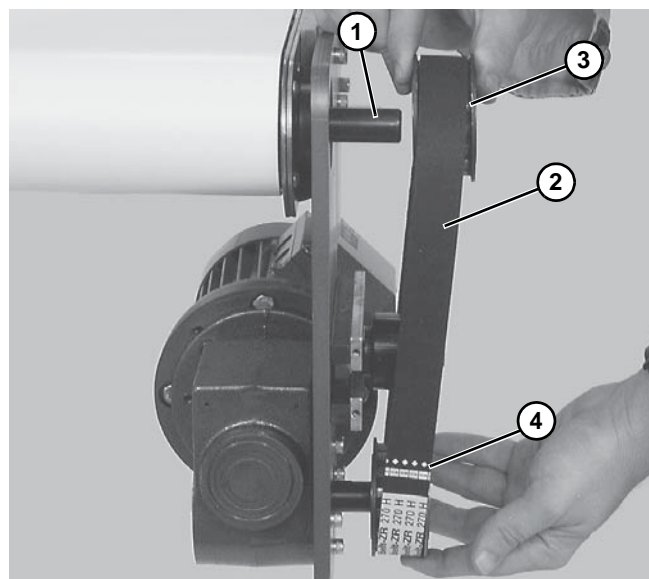

Figure 10
5. Install key (**Figure 10, item 1**).
6. Wrap timing belt (**Figure 10, item 2**) around driven pulley (**Figure 10, item 3**) and drive pulley (**Figure 10, item 4**). Install driven pulley onto conveyor shaft.